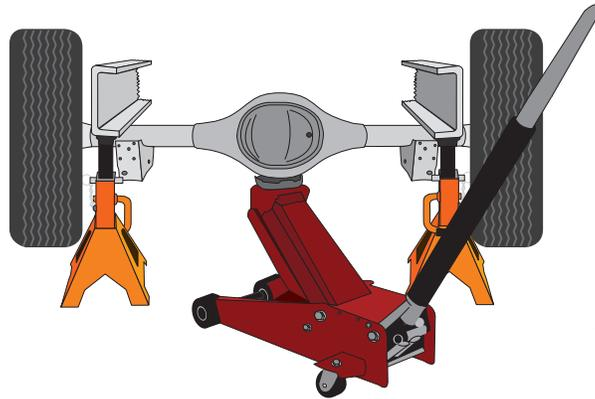

fig. D.1
1. Raise and support the vehicle in a way, using safety stands or equivalent, that the axle can be safely dropped away from the frame. This will need to be done for the air spring assembly to be put into position between the axles and frame (Fig. D.1).